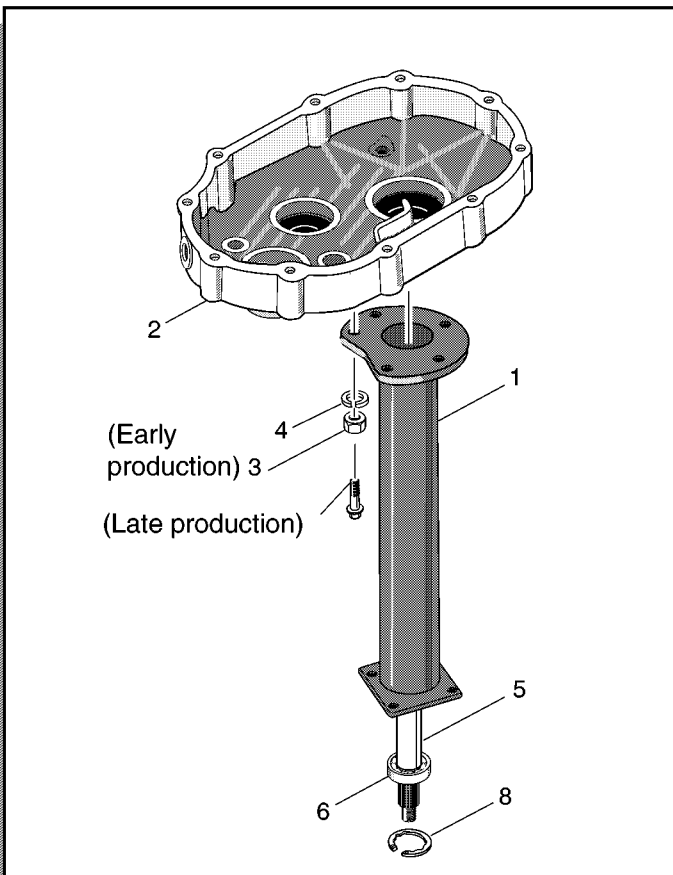
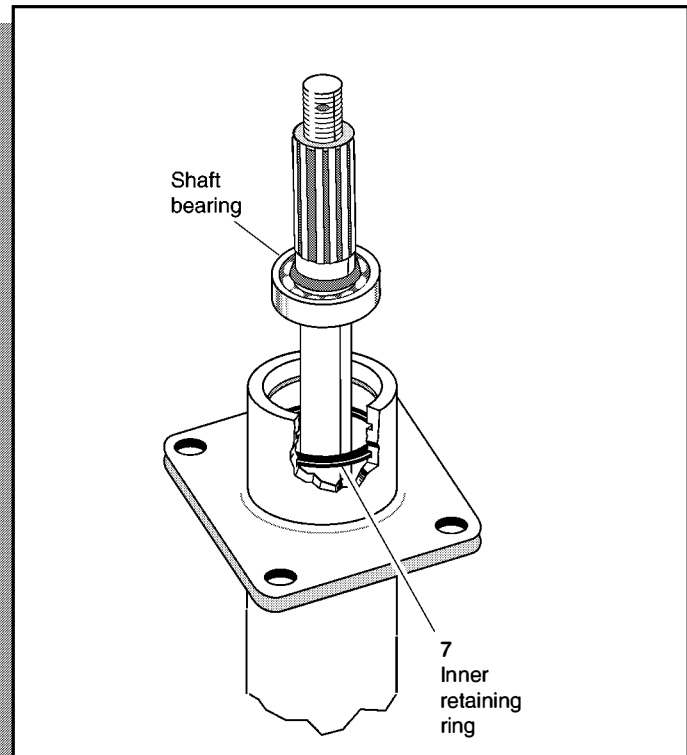

Fig. C-9 Axle Tube/Casing installation
Fig. C-10 Axle shaft Insertion
1. Install the left (clutch) side axle tube (1) on the left side transaxle casing half (2) (Ref Fig. C-9 on page C-4).
1. Carefully insert axle shaft through the tube and casing oil seal until the shaft bearing (6) seats against the inner retaining ring (7) (Ref Fig. C-9 on page C-4)(Ref Fig. C-10 on page C-4).